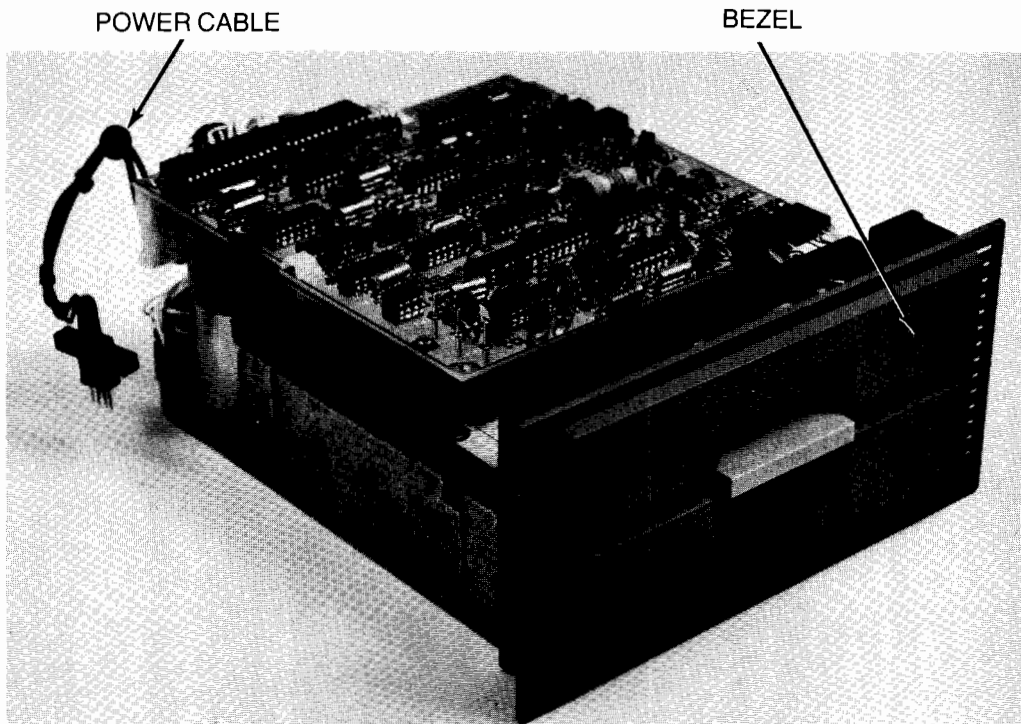

Figure 4-52. Disassembling Flexible Disc Drive, View 2
8. Remove bezel from drive (Figure 4-52) and retain for installation on replacement drive.
9. Remove power cable from drive board (Figure 4-52) and retain for installation on replacement drive.